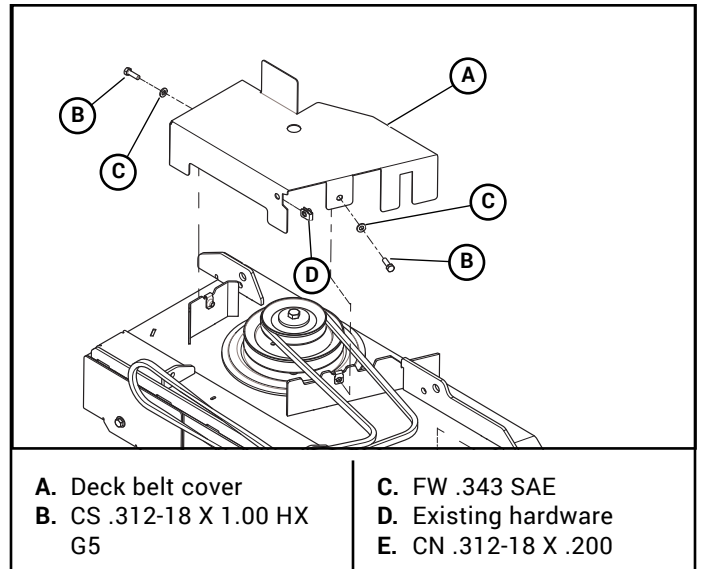

Figure 3-27
16. Attach the clip nuts to the deck belt cover. Figure 3-27
17. Attach the deck belt cover and the blower belt cover. Figure 3-27 & Figure 3-28